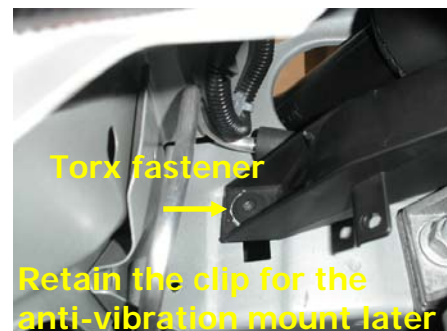
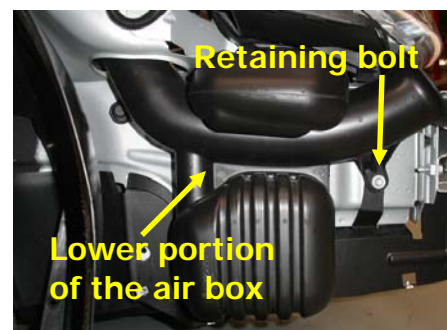

Fig. 6
Fig. 7
6. Remove air box – remove the two (2) nuts holding the top of the air box (adjacent to the strut tower); remove the T30 torx fastener holding the lower portion of the air box to the body (keep track of the clip for that bolt as it will be used later to secure the cold air intake anti-vibration mount) (Figure 6). The top of the air box should lift out. Remove the bolt that retains the lower portion of the air box (Figure 7). The lower portion of the air box should now be free. The stock air box will not be used as the Garrett turbo kit is supplied with a cold air intake.